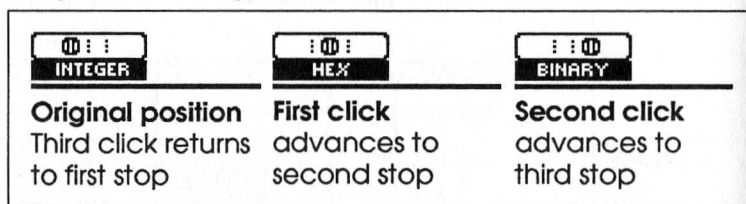

Figure 4-6 A Clickstop switch in Action
- ❖ **Clickstop switches** control calculator modes which have more than a simple *ON/OFF* state (see Chapter 6 for a list of all clickstop switch functions). Pressing the switch will advance the position of the clickstop one position to the right (Figure 4-6). Pressing a switch set at the rightmost position resets the clickstop to the first position. Each clickstop position displays a different label beneath the switch, which may be edited using the Text tool. The label is inverted (white letters on black background) when the switch setting matches the mode it controls. Switches may be mapped to keystrokes during construction.